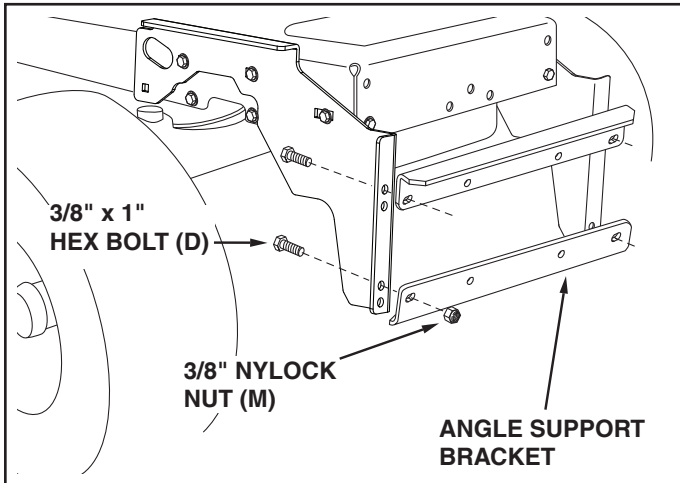

FIGURE 9
STEP 1: (SEE FIGURE 9)
- Assemble one angle support bracket to the topmost set of holes in the hanger brackets using two 3/8" x 1" hex bolts (D) and 3/8" nylock nuts (M). Assemble the second angle support bracket to the second from the bottom set of holes in the hanger brackets using two 3/8" x 1" hex bolts (D) and 3/8" nylock nuts (M). Be sure the brackets are turned as shown. **Do not tighten yet.**